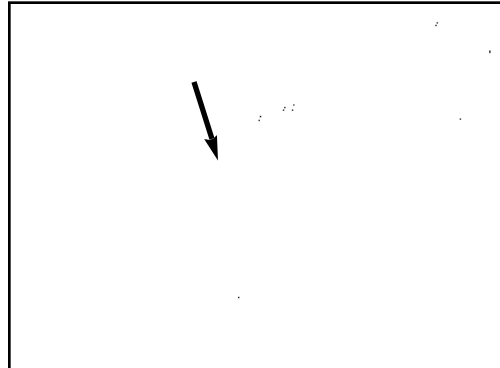
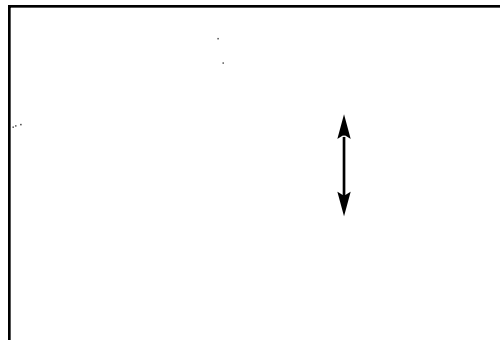

Figure 26
Figure 27
4. To secure tower to mainframe, rotate “Sure-lock” lock lever back and down to engage “Sure-Lock” force clamp with mainframe pinning hole. (See Figure 27.) Fully lock “Sure-Lock” by stepping on lock lever. “Sure-Lock” force clamp is fully engaged when outer tower rollers are raised above the outer track. (See Figure 26.)